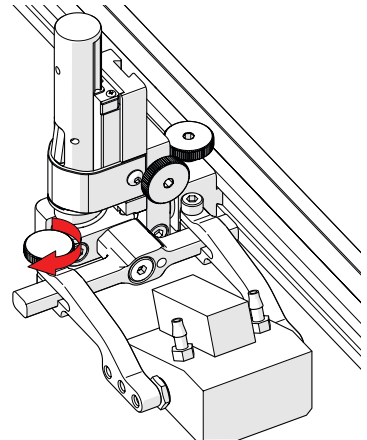

Fig. 57 - Tighten arm knob
6. Tighten the probe holder arm adjustment knob (Fig. 57).